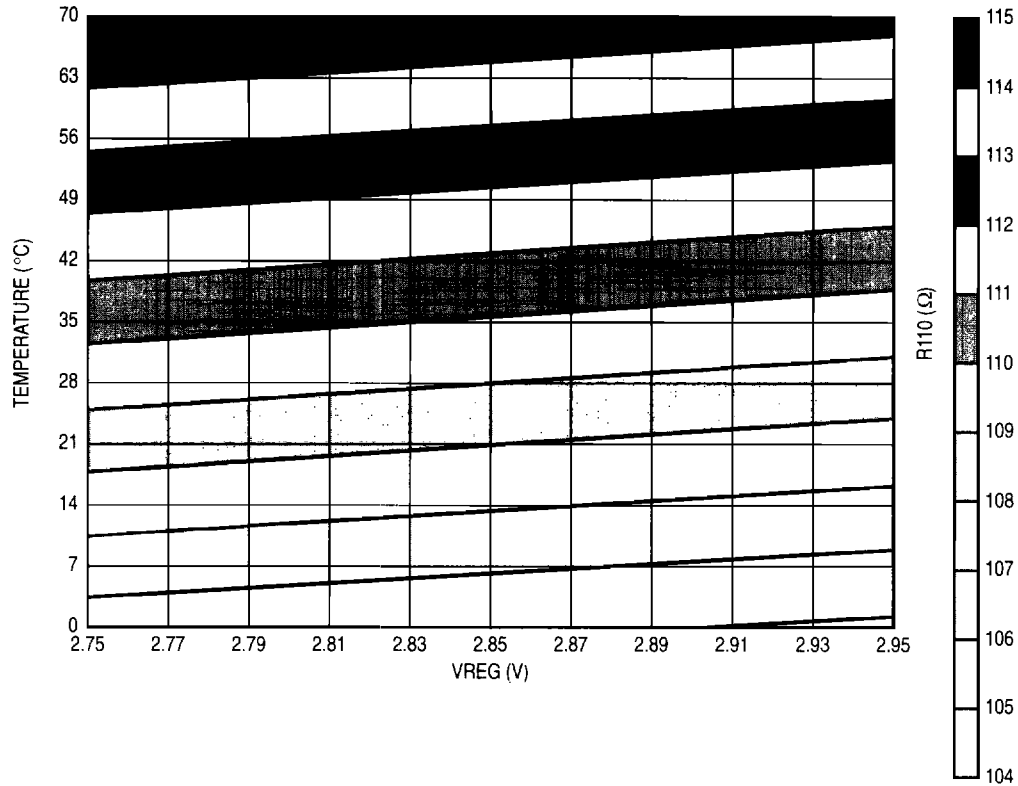

Figure 5. Termination Resistance R110 (Ω) versus Regulated Supply Voltage VREG (V) and Temperature ($^{\circ}\text{C}$)
1. See Figure 5, Termination resistance versus regulated supply voltage and temperature. 110Ω Resistor Target Is at 35°C. Temperature coefficient of resistance T_C = 0.135Ω/°C typical.